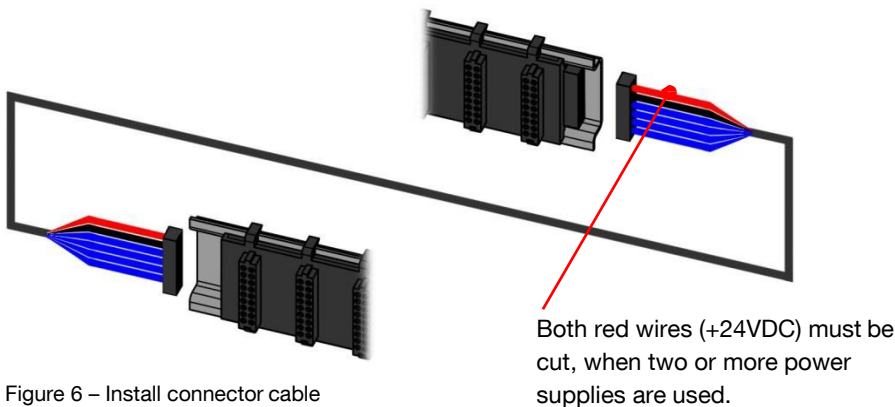

Figure 6 – Install connector cable
- ➔ Red and black wire must face upwards, blue wires must face downwards. (Refer to figure 6)